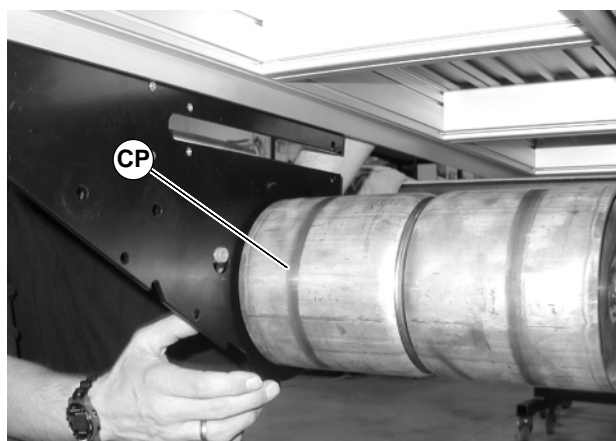

Figure 82
11. Slide drive pulley (CP of Figure 82) out of attached side plate.